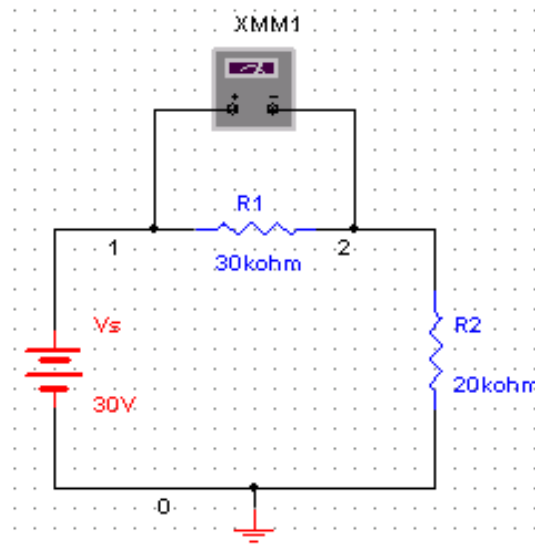

Figure 14: **Multimeter** connection for voltage measurement
- b. Click on the **Multimeter** icon. Now click in the workspace to place the **Multimeter**. Drag it and place it near resistor  $R_1$  as shown in Fig. 14. Make a connection from the '+' terminal of the **Multimeter** to the left pin of  $R_1$  and from the '-' terminal to the right pin of  $R_1$ . Note that the reversal of + and - terminals will give opposite readings.